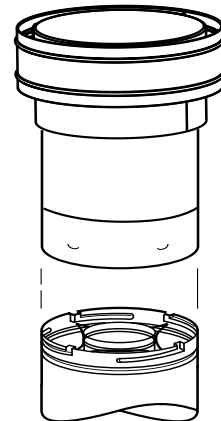

Figure 25
K. Install the vertical termination - The final step involves installation of the SV4.5CGV-1 Vertical Termination. Extend the vent sections to the height as shown in the "Vertical vent termination section" on **page 5**. The SV4.5CGV-1 Vertical Termination (**Figure 25**) can be installed in the exact same fashion as any other **Secure Vent** section. Align the termination over the end of the previously installed section, adjusting the radial alignment until the four locking dimples of the termination are aligned with the inlets of the four incline channels of the last vent section. Push the termination down until it fully engages, then twist the termination clockwise running the dimples down and along the incline channels until they are seated at the end of the channels.